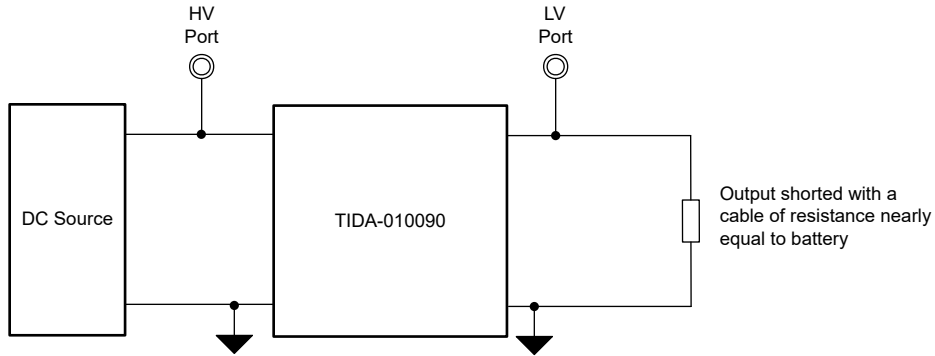

Figure 3-9. Hardware Setup to Tune the Current and Voltage Loops
1. Use the test setup shown in Figure 3-9.